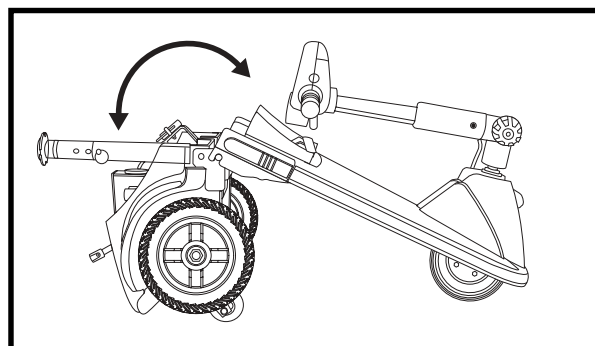

Figure 18. Frame Positioning
1. Push back on the seat post to pivot the scooter's rear section rearwards until it is standing vertically on its rear bumper. See figure 18.
3. Holding the seat post, slowly pivot the rear section forward until the locking brackets are fully connected onto the rear pegs. See figures 18 and 19.